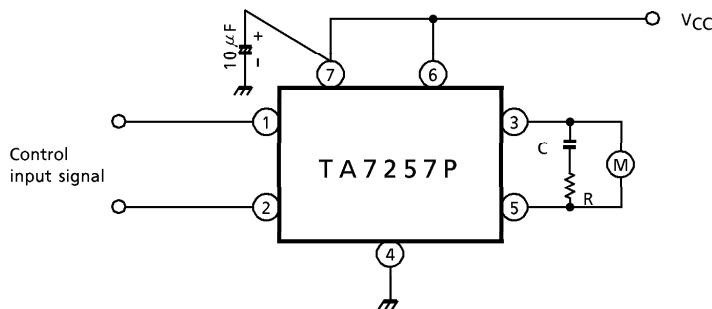
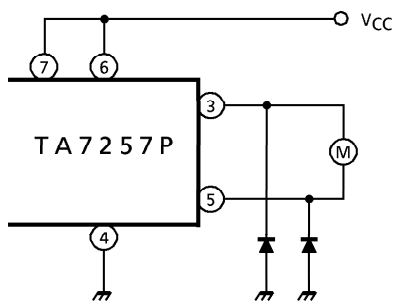

Fig.2
Fig.3
- (Note 1) Fig.2 shows the basic application circuit. Optimum values of the C, R depend on the inherent constant of a motor and parasitic C, R values around the circuit. Normally, recommended to use 0.1 μF and 33 Ω .
(3) Additional diode
- i) If the braking operation is so loose, connect a additional diode between each output to GND, (See Fig.3)